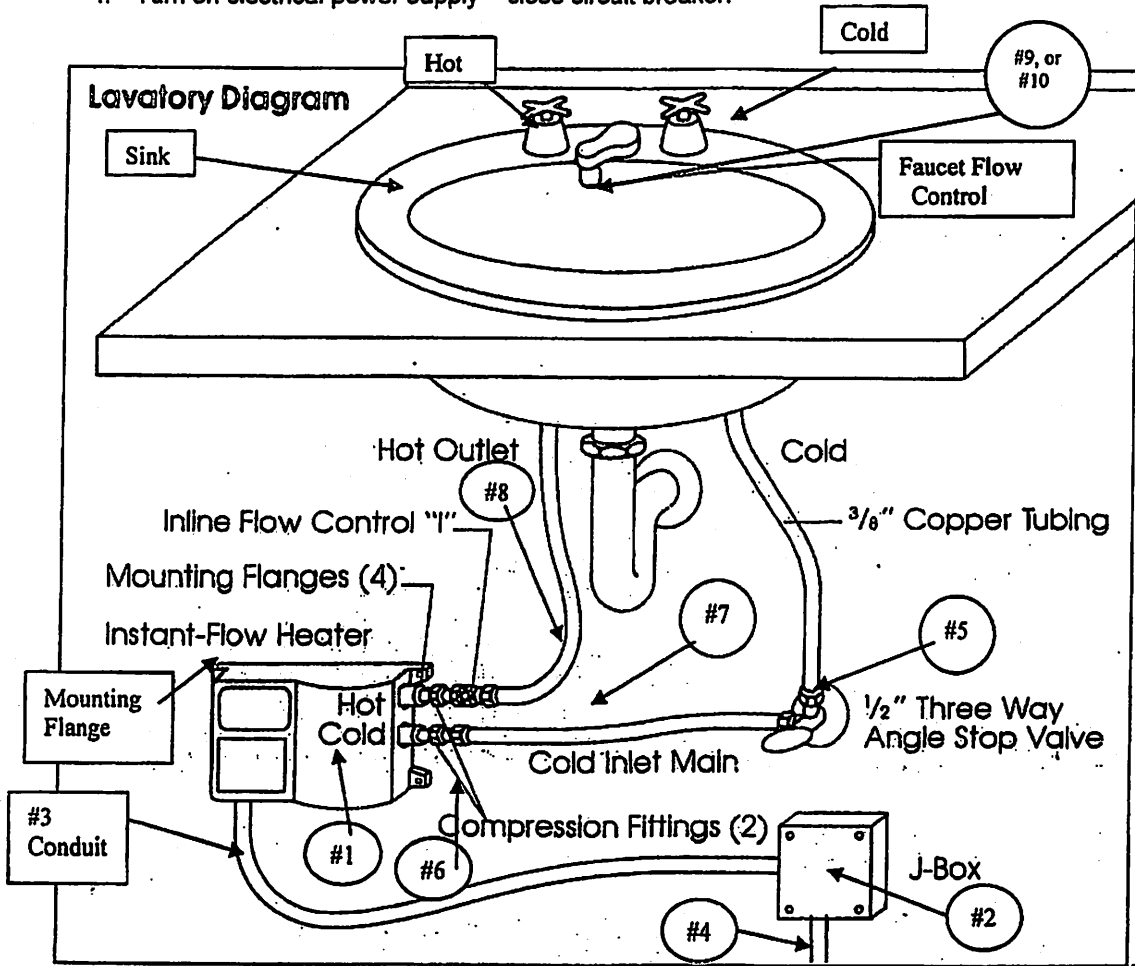

FIGURE 1 HEATER INSTALLATION
2. Mount unit horizontally against the wall so the label reads correctly (See Fig. 1). Mount with four screws through the flanges located on each corner using molly anchors or fasteners.
3. Connect plumbing. Use 1/2" tapered national pipe thread at cold water inlet and hot water outlet (See Fig. 1). Use compression fittings supplied for ease of installation. (Do not apply heat to these fittings).